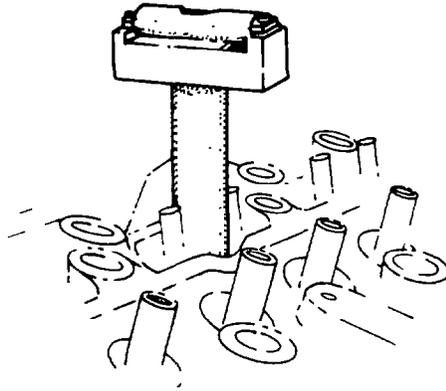

Fig. 15 — Levelling Cylinder Head
- d. Correctly position the head. The injection nozzle sleeves must be perpendicular to the drill press table (see fig. 15).